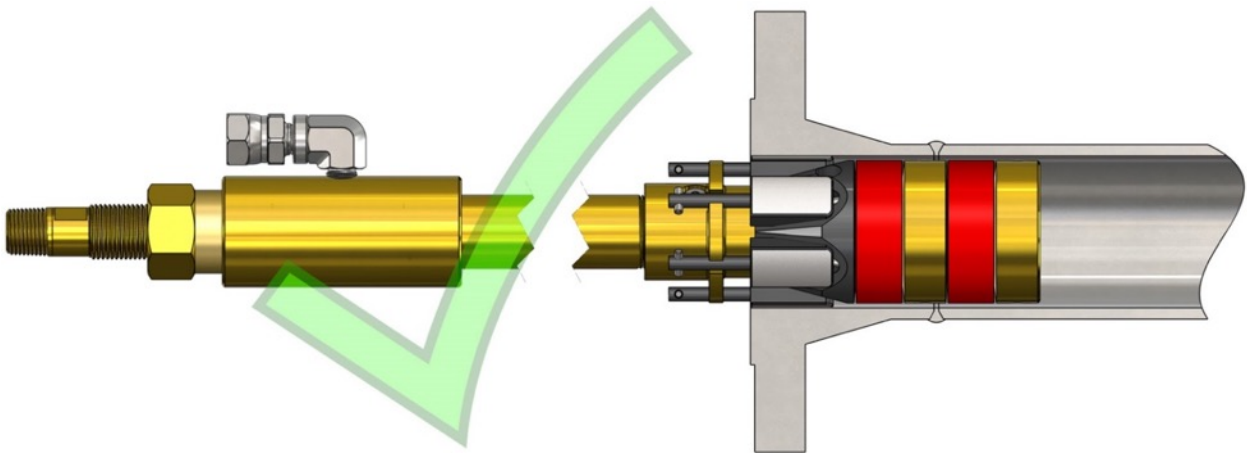
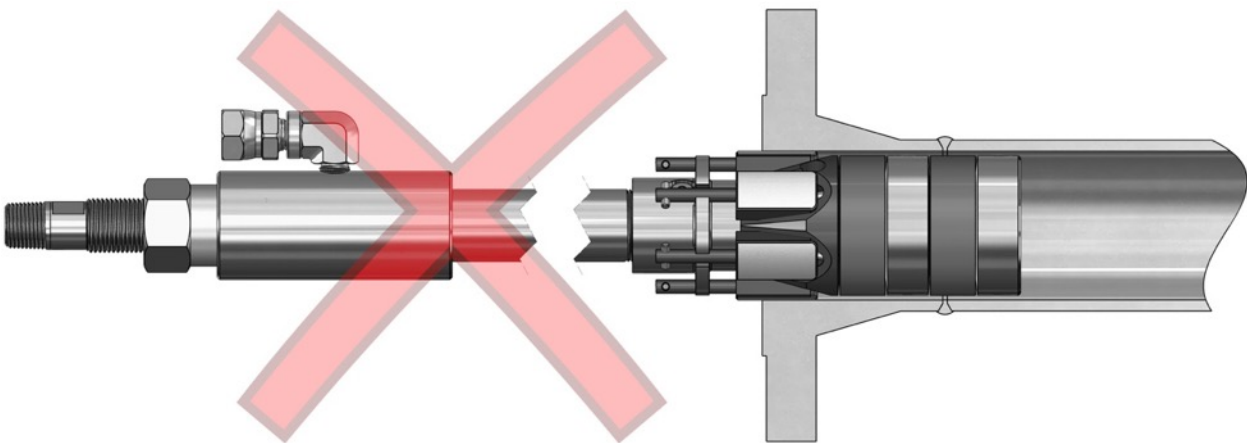

Figure 9: Permissible Insertion Depth with Backpressure Rating
Figure 10: Impermissible Insertion Depth with No Backpressure Rating
CAUTION: Gripping failure may occur if the Gripping Wedges are not fully inserted into the pipe or fitting. If any of the **Wedge Gripper's(16)** surface is visible beyond the end of the pipe or fitting end, represented in Figure 10, the GripSafe plug may not hold any backpressure. Advancement of the plug into the vessel being tested is necessary so none of the **Wedge Gripper's(16)** surface is visible beyond the end of the pipe or fitting end shown in Figure 9. Care should be taken to not cover the weld area with the **Seal(14)** as it could render a false outcome of a hydrotest.
- See Figure 9 for an example of a properly installed Safety Gag.